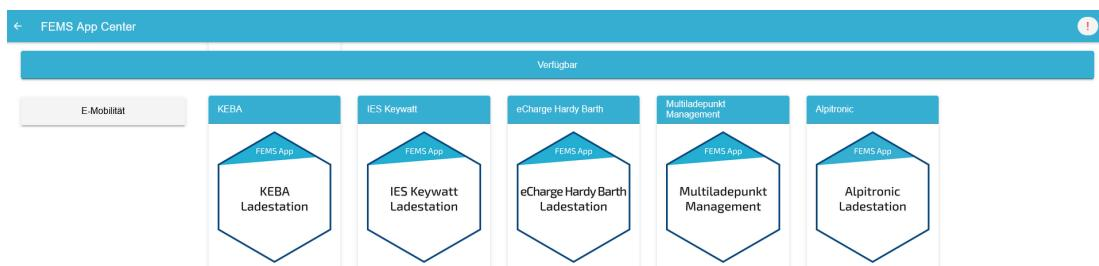

Figure 15. App installation — Variant 2: Step 1
- Figure 15. App installation — Variant 2: Step 1